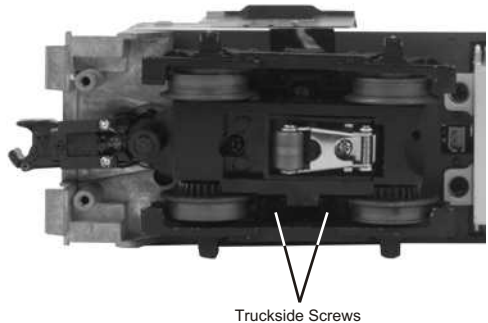

Figure 5. Truckside Screws
B. Remove the trucks from the chassis and the truck sides from the trucks in order to slip the new tire over the grooved drive wheel. See Fig. 5 for which screws you must remove to do this. Once the truck sides have been removed: